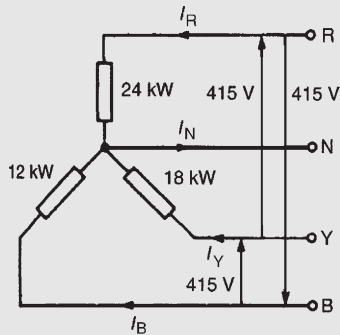

Figure 20.7
**Problem 4.** A 415 V, three-phase, four-wire, star-connected system supplies three resistive loads as shown in Fig. 20.7. Determine (a) the current in each line and (b) the current in the neutral conductor.